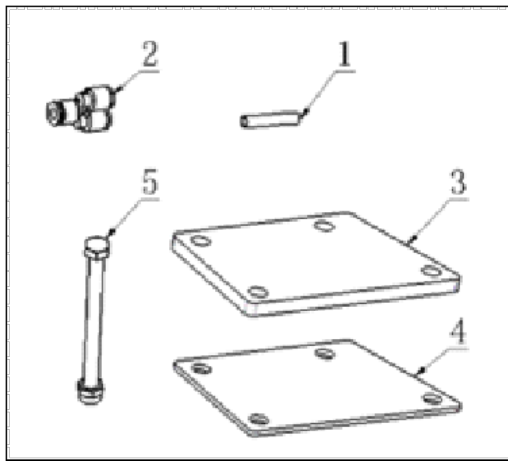
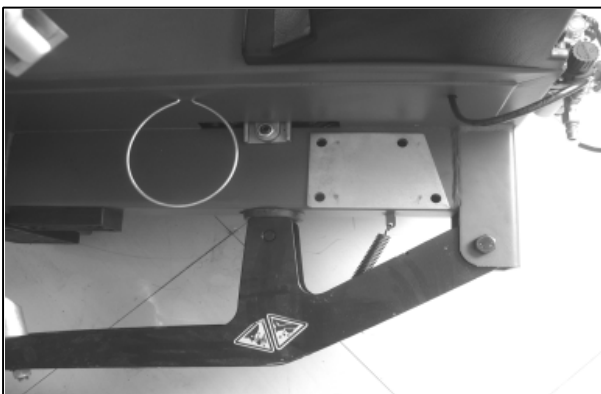

FIG3
FIG4
4.1.2 open the box and check all the parts according to the “accessory content” and FIG3. Clean them to prepare installation like FIG4 and prepare the needed tools.
4.2.1 Firstly put the base board (FIG3-4) onto the machine frame (FIG4) and align the four holes.